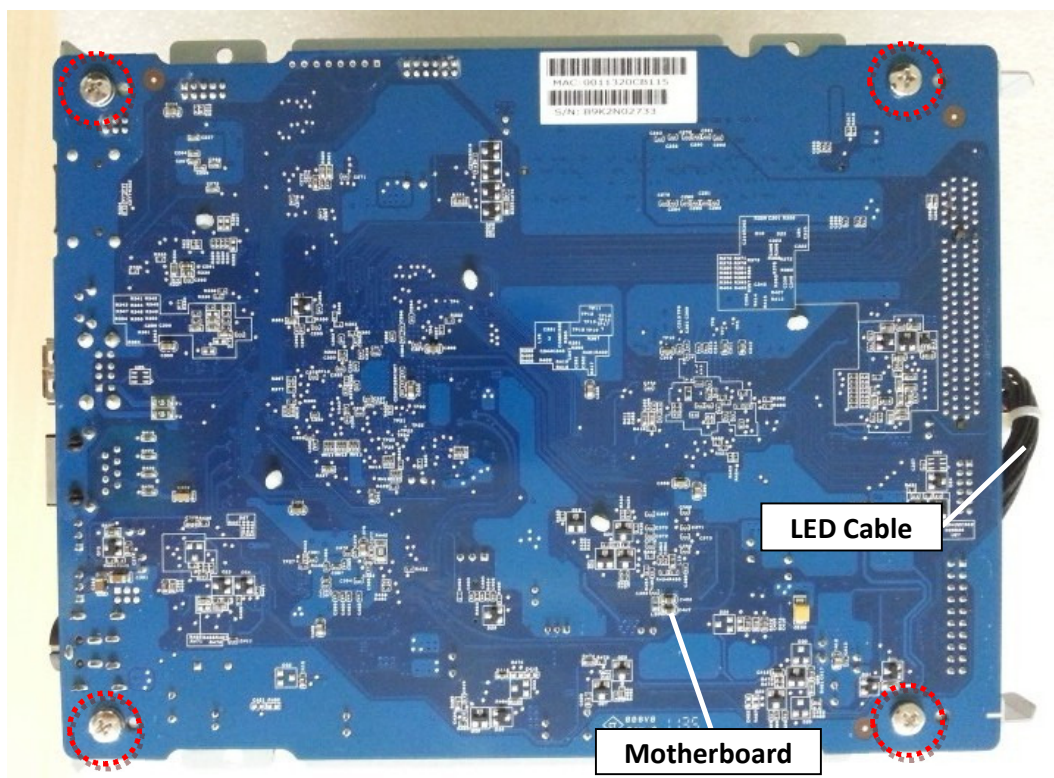

Fig. 63 – Top View
- 3.1.15 Release the four (4) screws (Marked by the red circles). (Fig. 63)